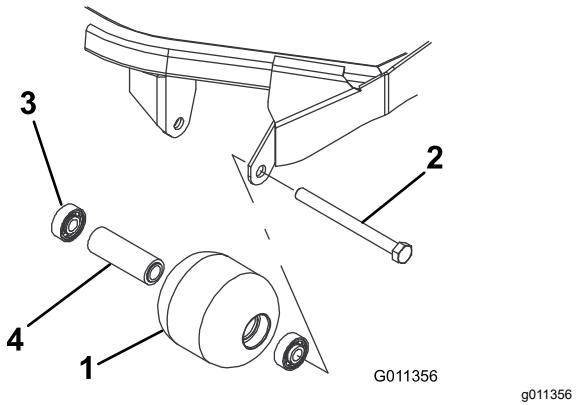

Figure 73
1. Remove the roller-mounting bolt (Figure 73).
4. Inspect the roller housing, bearings, and bearing spacer for damage (Figure 73). Replace any damaged components and assemble them.
1. Press the first bearing into the roller housing (Figure 73). Press on the outer race only or equally on the inner and outer race.
2. Insert the spacer (Figure 73).
3. Press the second bearing into the roller housing (Figure 73). Pressing equally on the inner and outer race until the inner race contacts the spacer.